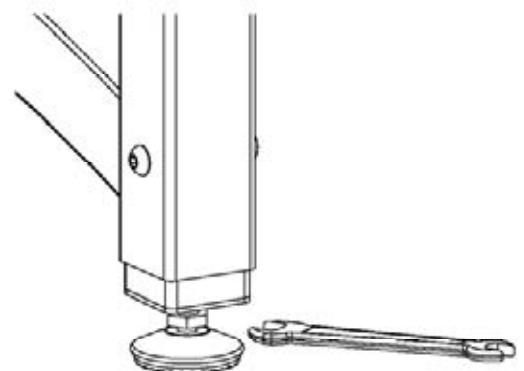

Fig. 15-1
**Step 15-1:** Adjust leveling feet with the 17mm Open Wrench so that the machine remains stationary without interaction from the user. To raise the leg of the machine simply turn the foot clock-wise shown in Fig. 15-1 and reverse action to lower the foot.